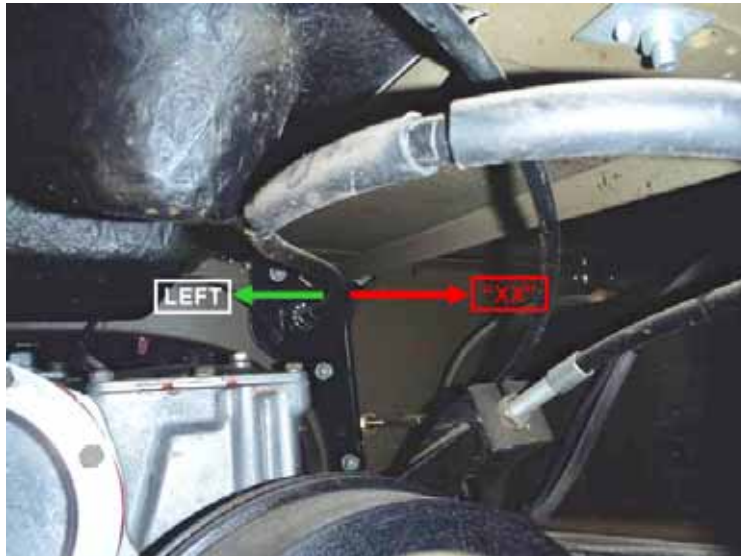

Figure 119 Parking Brake Cable Route
- l. Fit the cable so that it loops left from the handbrake lever heelboard curling right to the transmission bracket as depicted in Figure 119.